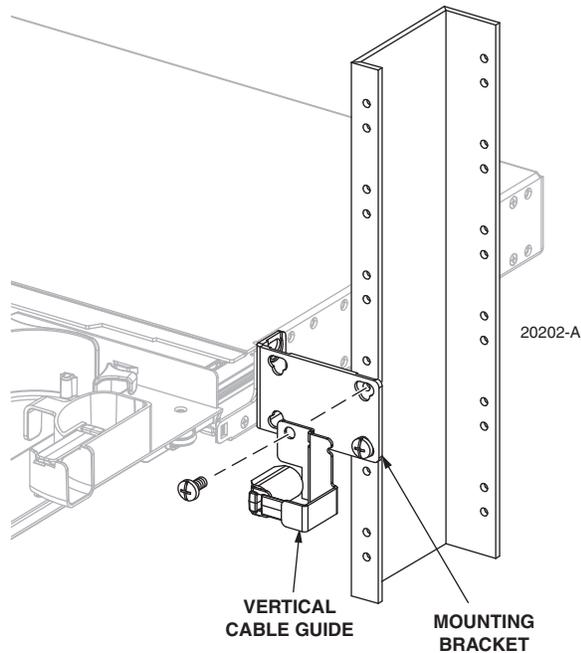

Figure 6. Installing VCGs (23-Inch Rack Mount)
2. If the rack width is 23 inches (58.42 cm), mount the VCGs on the rack narrow flange using the same screw and hole position as used for the top mounting screw on the panel mounting bracket. Refer to Figure 6.